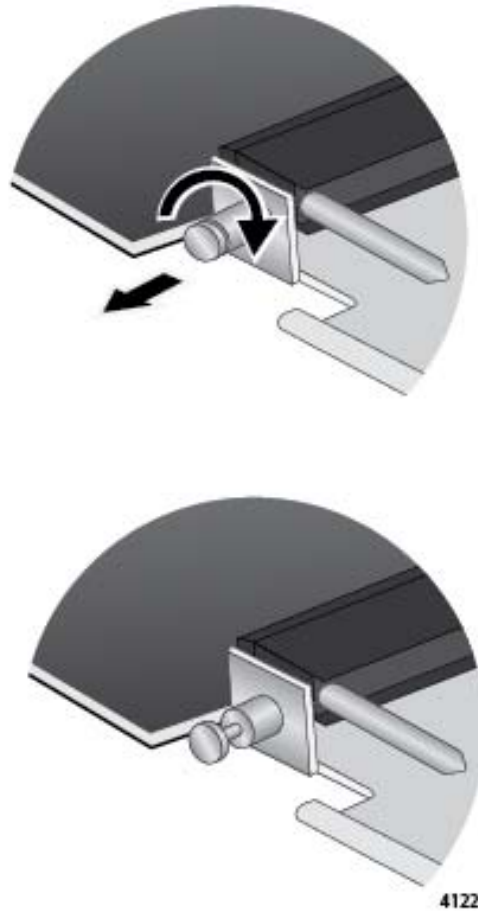

Figure 80. Retracting the Retaining Pin on the AT-SBx81XLEM Line Card
6. With your thumb and forefinger, pull out the retaining pin on the side of the line card and turn it clockwise one quarter turn so that it remains in the retracted position. Refer to Figure 80 on page 151.